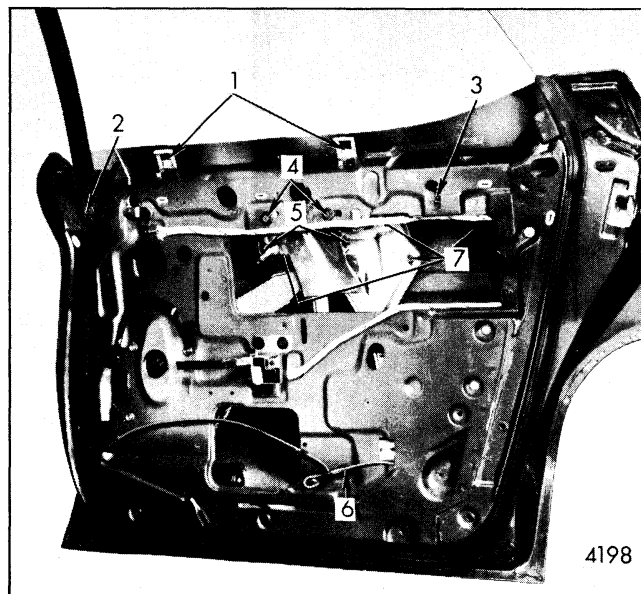
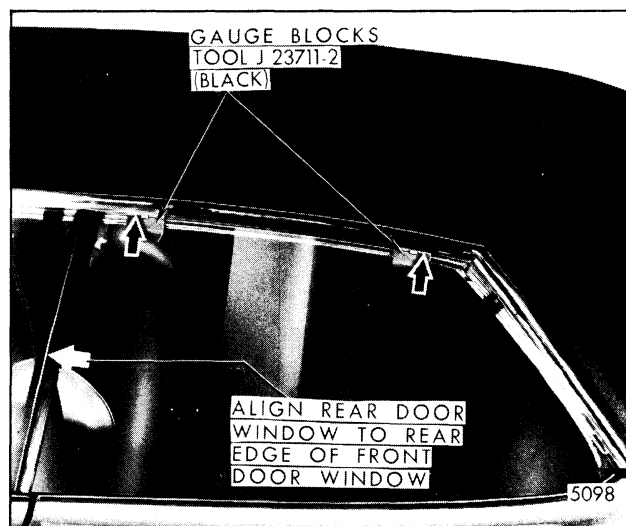

Fig. 5-132-Rear Door Window Removal and Adjustments - "B and C-39,49" Styles
Fig. 5-134-Rear Door Window Alignment
1. **WINDOW NOT PARALLEL WITH SIDE ROOF RAIL WEATHERSTRIP** - A rotated window condition (glass cocked in opening) can be corrected by loosening front and rear up-travel stops ("2" and "3", Fig. 5-132) and lower sash guide plate bolts ("7", Fig. 5-132) and raising or lowering front edge of glass in relation to rear edge of glass, as required, to parallel upper
2. **WINDOW TOO FAR INBOARD OR OUTBOARD ALONG UPPER EDGE IN RELATION TO SIDE ROOF RAIL WEATHERSTRIP** - To adjust upper edge of window in or out in relation to side roof rail weatherstrip, loosen upper end of center guide ("5", Fig. 5-132) and belt trim support retainers ("1", Fig. 5-132) and position guide inboard or outboard as required. Outboard adjustment of guide assembly moves upper edge of glass inboard. Conversely, inboard adjustment moves upper edge of glass outboard. With glass in a full-up position, position trim support retainers against inner surface of glass and torque previously loosened attaching bolts to 60 to 90 inch pounds.
3. **WINDOW TOO HIGH OR LOW IN RELATION TO SIDE ROOF RAIL WEATHERSTRIP** - To adjust window up-travel, loosen front and rear up-travel stops ("2" and "3", Fig. 5-132) and operate window to desired position to establish proper contact with side roof rail weatherstrip. Torque up-travel stop bolts to 60 to 90 inch pounds.
**LATION TO WEATHERSTRIPS** - To adjust window forward or rearward, loosen upper center guide support ("4", Fig. 5-132) and reposition glass as necessary. Upper attaching locations are slotted to permit fore and aft adjustment of the guide. Torque guide support attachments to 60 to 90 inch pounds.
5. **WINDOW MECHANISM BINDS WHEN OPERATING WINDOW ASSEMBLY** - Ease of window operation and window stability depends to a great extent on the adjustment of the belt trim support retainers ("1", Fig. 5-132).
2. Detach the side roof rail weatherstrip at the lower rear corner (screw retained at rear edge) and carefully remove from the retainer over the door window, as shown in Figure 5-134.
3. Lower front and rear door windows and install gauge blocks, tool J-23711-2 (Black), or equivalent into the side roof rail weatherstrip retainer above the upper front and rear corners of the glass, as shown in Figure 5-134.
4. Working from inside the body, with the door in the closed position, loosen front and rear up-travel stops ("2" and "3" Fig. 5-132) and belt trim support retainers ("1", Fig. 5-132).
If upper edge of glass contacts both gauge blocks simultaneously (refer to Fig. 5-134), proceed with Step 6.
If upper edge of glass does not contact both blocks simultaneously, completely loosen lower sash guide plate stud nuts ("7", Fig. 5-132) and manipulate the glass until the upper edge of glass contacts both blocks in the full-up position. Tighten guide plate stud nuts.
6. Raise rear door window assembly until contact is established between upper edge of glass and both upper gauge blocks. Then, raise front door window assembly. If the front edge of the rear door window assembly is properly positioned in relation to rear edge of front door window assembly, as shown in Figure 5-134, proceed with Step 7. If rear door window assembly is not properly positioned in relation to front door window assembly, loosen fore and aft adjustment on guide cam support ("4", Figure 5-132) and move glass forward or rearward as necessary.
7. Completely loosen upper end of (center) guide cam support ("5", Fig. 5-132). Apply firm outboard pressure against the upper end of the guide cam to remove slack in the system and to hold the upper inner edge of the glass inboard against the outer edge of the gauge blocks, as shown in Figure 5-134. Then, tighten (center) guide cam support attaching bolts.
2. With glass in a partially down position, loosen front and rear window belt trim support retainers ("1", Fig. 5-132) and up-travel stops ("2" and "3", Fig. 5-132). Then rotate the stops sufficiently to allow glass to bypass stops when removing window.
3. With window in a partial-down position, remove lower sash guide plate to glass attaching stud nuts ("7", Fig. 5-132), then tilt upper edge of glass inboard to disengage guide plate from studs on glass. Remove glass from door by lifting rear edge of glass upward, then slide glass rearward to align guide plate studs with notch provided at rear of door inner panel.